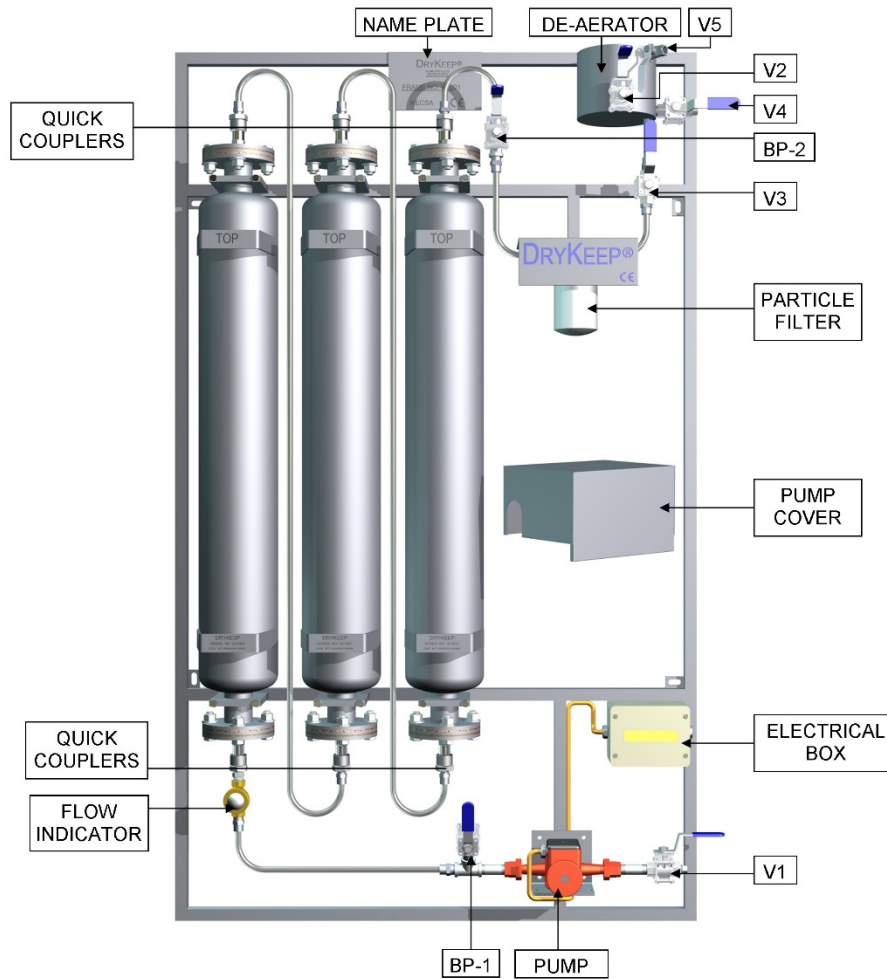

Figure 1: DryKeep® system layout
DryKeep® is shipped from the factory fully assembled as shown in figure 1 below.
The cylinders are factory filled with transformer oil and molecular sieve adsorbent beads. The unit can be mounted as received, or the cylinders can be removed prior to mounting to lighten the load and ease the installation process. The rest of the components are to be left on the framework. The DryKeep® system must be mounted vertically with inlet valve and the pump located at the bottom and de-aerator at the top. (Refer to Figure 1).
- 1) Upon receipt at the installation site, remove the top of the DryKeep® crate and unscrew the four (4) 1½" lag screws used to bolt the DryKeep® frame to the shipping crate.
- 3) *Refer to Figures 1, 4, and 5.* To connect DryKeep® to the transformer, first remove the shipping plugs from the DryKeep® inlet and outlet valves.
- 3) Refer to Figure 1. Ensure that the DryKeep® outlet valve is closed.